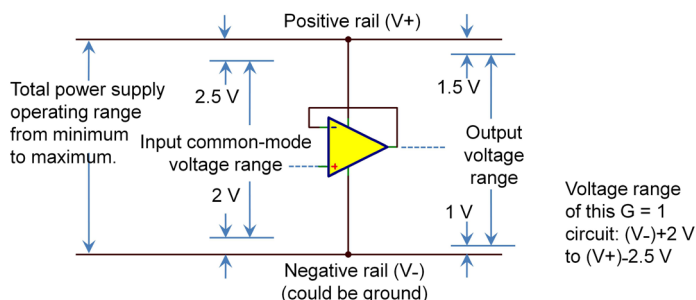

Figure 1: Input and output voltage ranges of a typical op amp used on dual supplies ($\pm$).
2. The input common-mode voltage range (C-M range) is generally specified relative to the positive and negative supply voltages, shown in Figure 1. In some equation-like form, the C-M range of this hypothetical op amp would be described as 2 V above the negative rail to 2.5 V below the positive rail. Something like this: $(V-)+2$ V to $(V+)-2.5$ V.
Figures 1, 2 and 3 show a $G = 1$ buffer configuration. A key point here: The output capability of the example in Figure 1 will be limited to 2 V from the negative rail and 2.5 V from the positive rail, which is due to the limited-input C-M range. You would need to configure this op amp in a higher gain to deliver its full output-voltage range.
The example in Figure 1 is typical of an op amp generally used on dual supplies. It would not be called a “single-supply” type, but it could operate as a single supply by staying within those ranges.